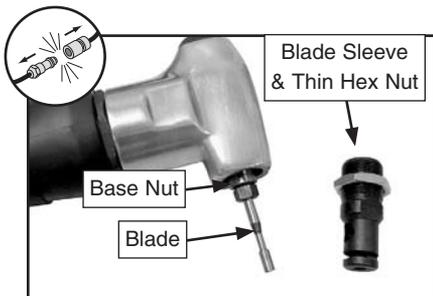

Figure 3. Blade components separated.
3. Unthread the blade sleeve from the housing, then unthread the base nut and remove the blade from the housing (see **Figure 3**).